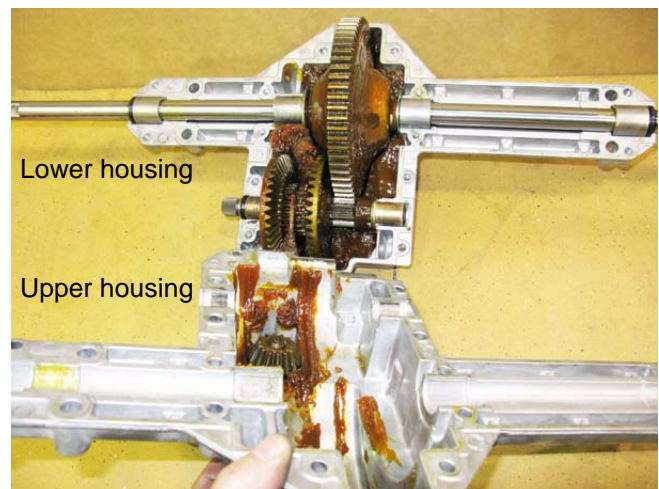

Figure 5.65
- 8. Separate the two housings. See Figure 5.65.